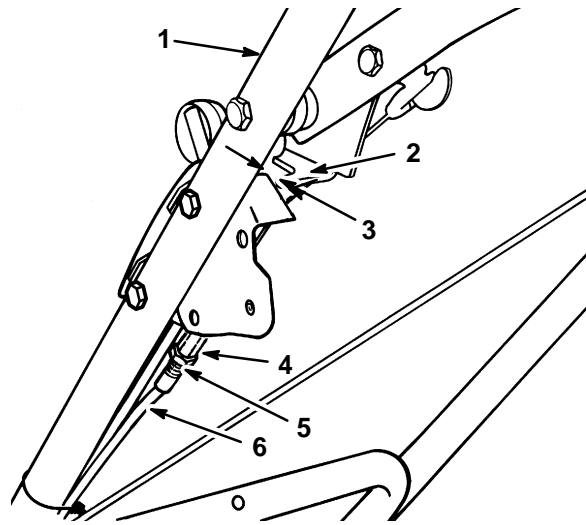

Figure 17
1. **Zone Start Models Only** – CHECK ADJUSTMENT (Fig. 17 & 18)—Move control bar toward handle until slack in wire is removed. Gap between brake lever and handle must be 3/16"–1/4". See step 2 for adjustment.
- **Hand Push Models** (Fig. 17)—Loosen jam nut on brake cable. Insert 3/16"–1/4" object between brake lever and handle. Turn cable adjuster on brake cable until slack is removed. Then tighten nut.